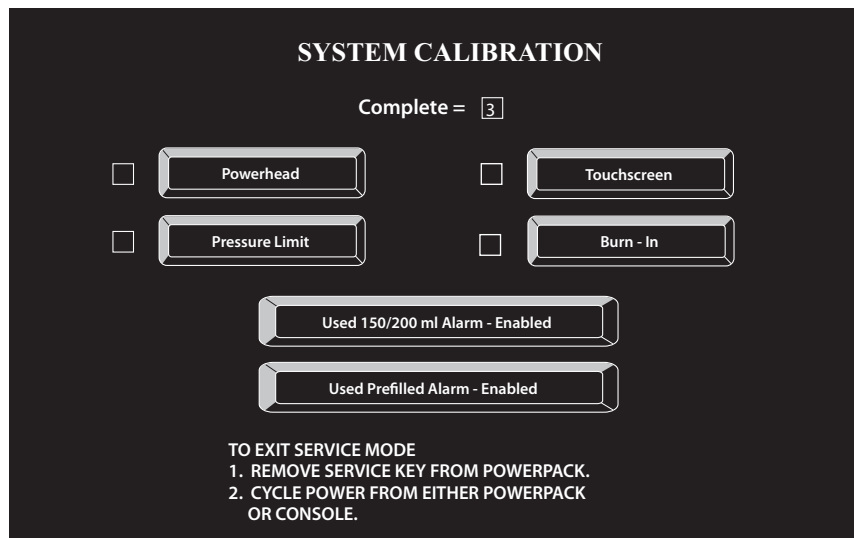
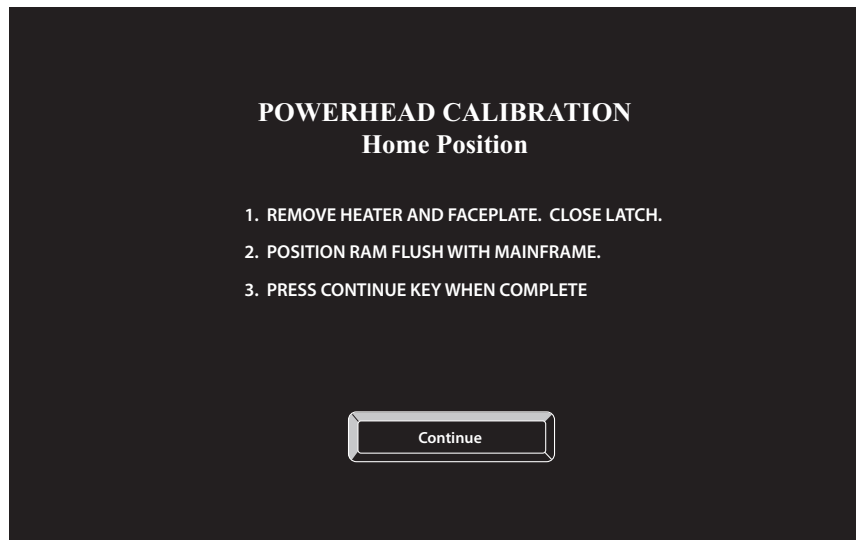

Figure 5-2-1 System Calibration Screen in the Service Mode
Figure 5-4-1 Home Position Calibration (Powerhead)
3. Return power to the injector by toggling the main breaker and turning the console ON. The screen in Figure 5-2-1 will be displayed. **NOTE:** The injector should be serviced only when the System Calibration Screen is in English. If the System Calibration Screen is not in English, remove the Service Key, cycle power, set the language to English, re-install the Service Key and power back up in Service Mode.
1. To start the console calibration sequence, press the [Touchscreen] key located in the upper right hand corner of the System Calibration Screen (see Figure 5-2-1).
1. To start the powerhead calibration sequence, press the [Powerhead] key located in the upper left hand corner of the System Calibration Screen (see Figure 5-2-1). Follow the instructions on the screen in Figure 5-4-1. When you have completed these instructions, press the [Continue] key.